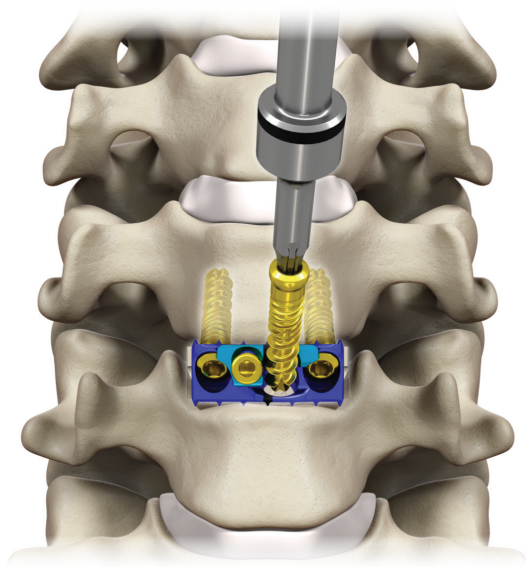

Figure 19
- Remove the awl/drill and guide. Load the desired screw onto the 2.0 mm hex driver. Insert the screw through the midline screw hole, advancing the screw until the screw head contacts the plate to stabilize the implant provisionally. Ensure that the driver is on axis to the prepared screw trajectory during screw insertion and final tightening (Figure 19).